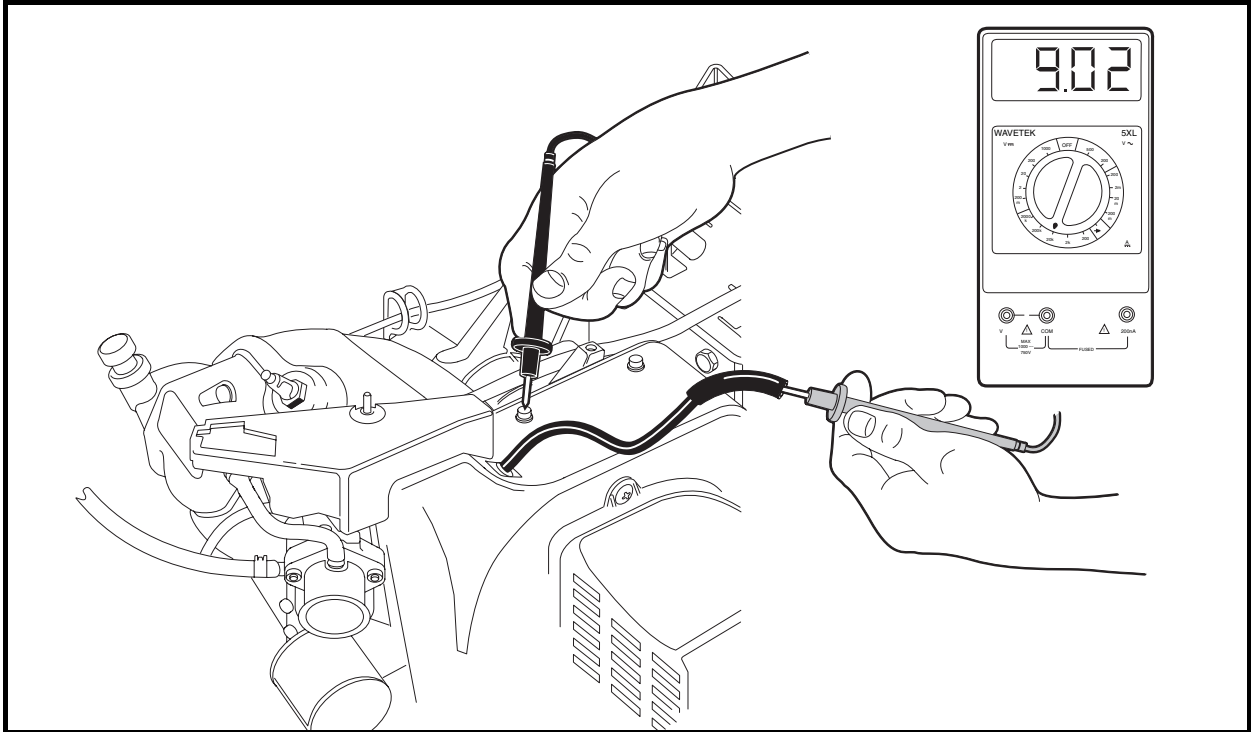

Figure 11-29 Secondary Coil Test Without Cap
- 6.1. Using a multimeter set to 20k ohms, place the red (+) probe of the meter into the end of the spark plug wire and place the black (–) probe on a clean unpainted surface of the engine or frame (**Figure 11-29, Page 11-27**). If the resistance is between 6.0k - 11.0k ohms, the secondary coil is within acceptable limits. If the resistance is not between 6.0k - 11.0k ohms, bench test the ignition coil.